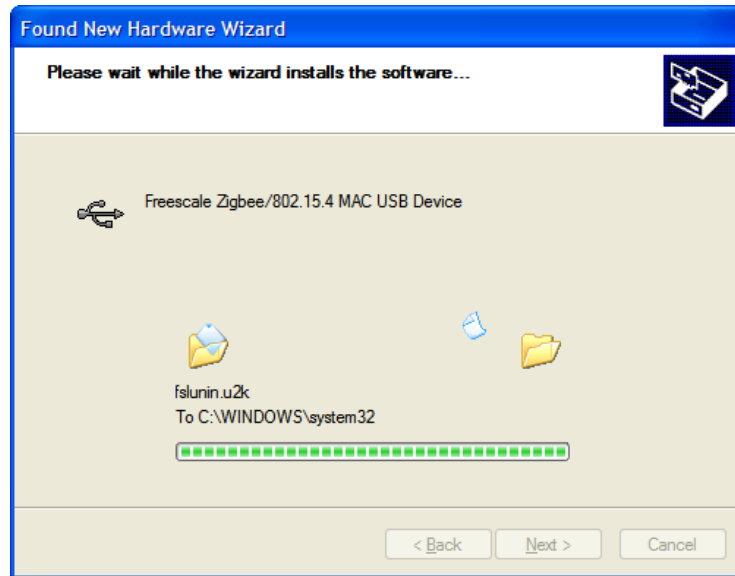

Figure 2-5. Hardware Installation Window
4. The Wizard searches for and installs the software for the USB Serial converter as shown in Figure 2-5 to allow the USB-connected device to operate in serial mode.